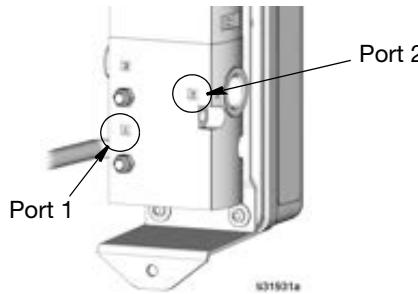

FIG. 24
3. Disconnect the air supply line from the port numbered 1 on the solenoid valve (14) and the pump air line from the port numbered 2 (Fig. 24).